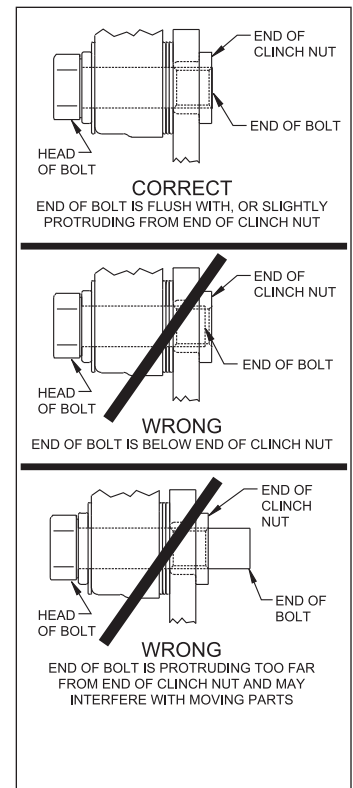

Figure 4. Clinch Nut Engagement Diagram
**Assembly Instructions** (numbers in parenthesis refer to the parts list and Figure 1 on the preceding page): **CAUTION:** All mounting bolts must fully engage clinch nuts. Be sure to check that all bolts are either flush or protruding through flanged side of clinch nut after shimming, Figure 4.
the caliper, Photo 10. If not, adjust by adding or subtracting shims (22) between the bracket and the caliper. Always use the same amount of shims on each of the two mounting bolts. **NOTE:** The end of the bolt must be flush with or slightly protruding from the head of the clinch nut in the bracket. If necessary, place spare shims between the washer and the caliper mounting ear to achieve the proper clinch nut engagement, as shown in Figure 4. Once the caliper alignment and clinch nut engagement are correct, remove the mounting bolts and caliper.